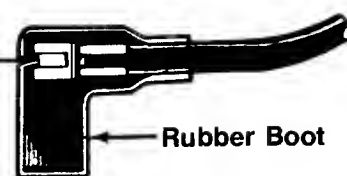

FIGURE 10.
1. Attach spark plug wire to spark plug. If unit is equipped with a rubber boot over the end of the spark plug wire, make certain the metal loop on the end of the spark plug wire (inside the rubber boot) is fastened securely over the metal tip on the spark plug. See figure 10.